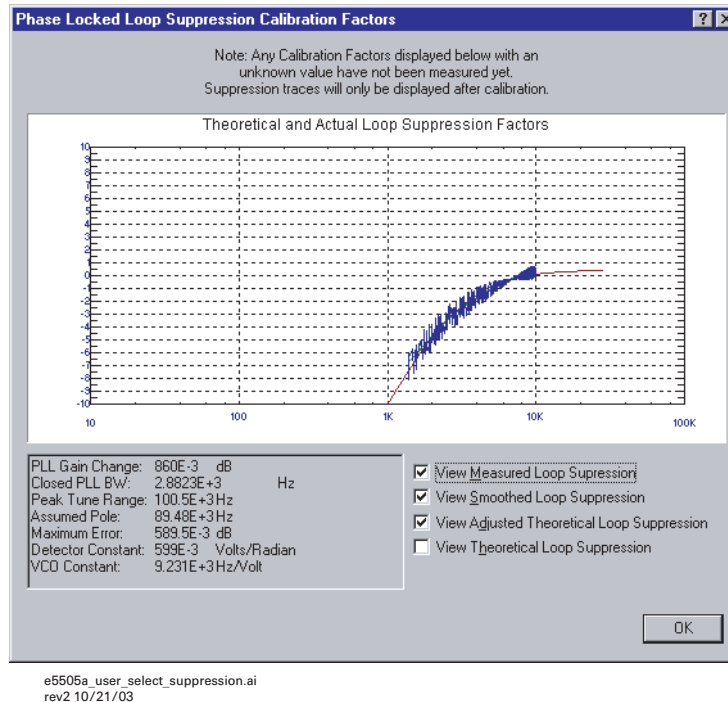

Figure 142 Selecting suppressions
- 2 When the PLL Suppression Curve dialog box appears, select **View Measured Loop Suppression**, **View Smoothed Loop Suppression**, and **View Adjusted Loop Suppression**. See Figure 142 on page 197.